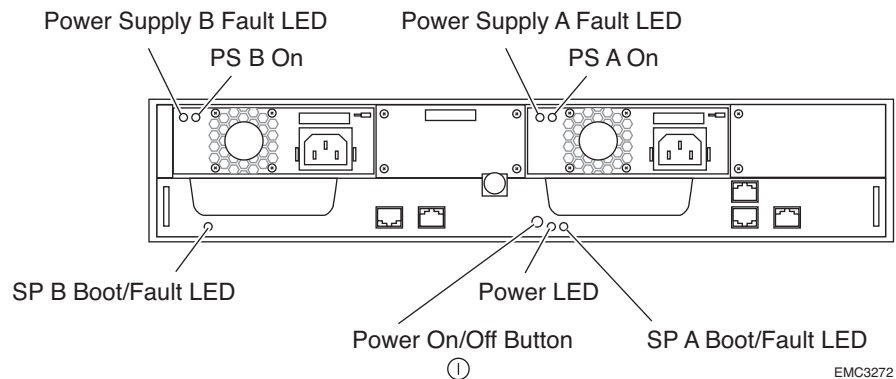

FIGURE 16. Power Button and Indicators (SSR212PP2f shown)
STEP 6. If power is not on, press the power button to begin powerup, and verify that the power supply fault indicator light does not go on (Figure 16).